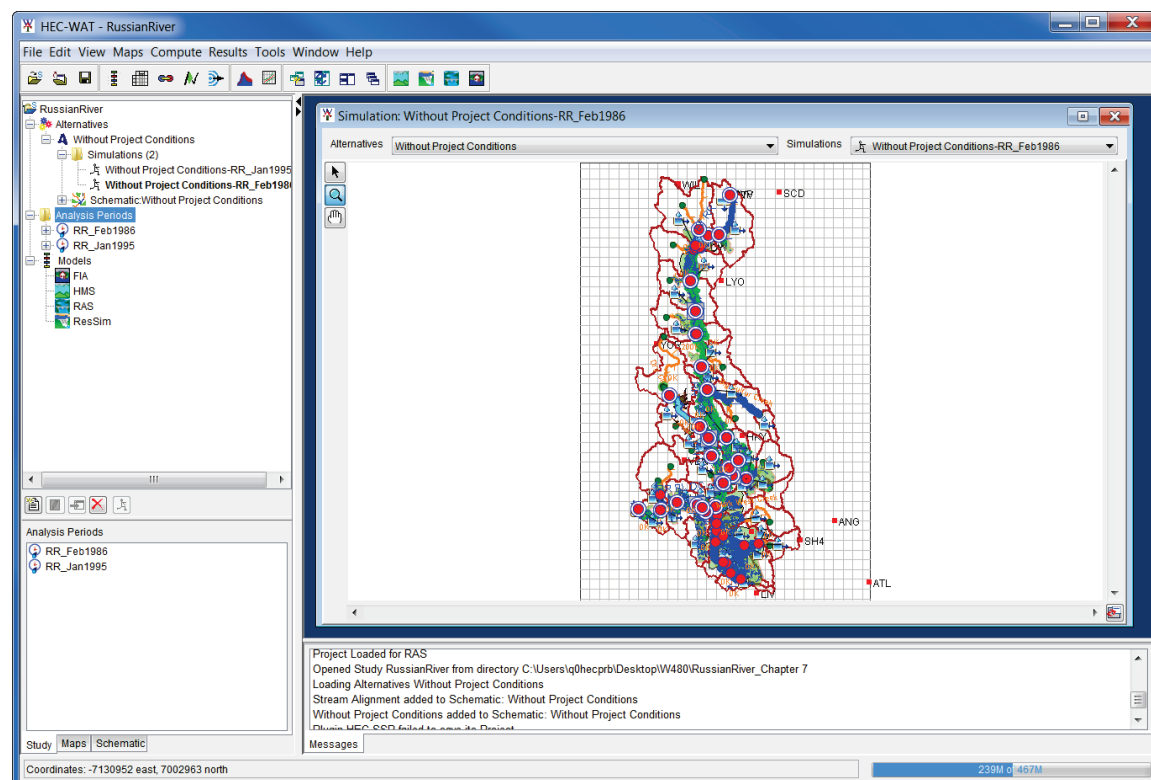
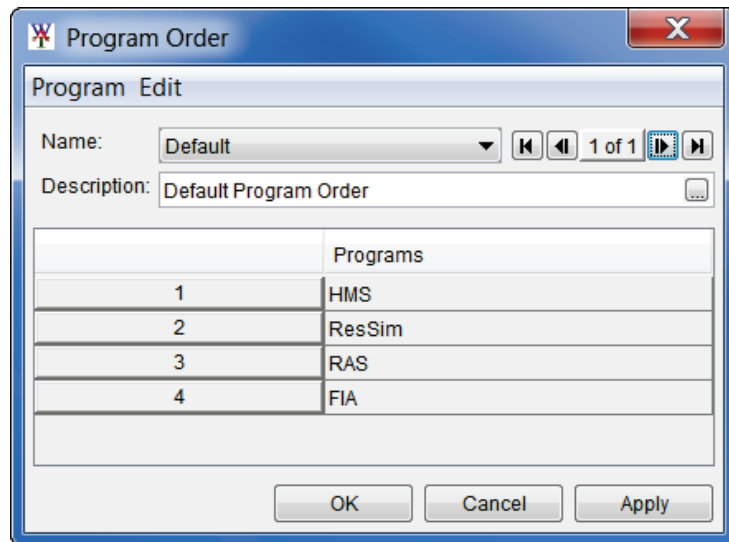

Figure 11.1 HEC-WAT Main Window
Figure 11.2 Program Order Dialog Box
From the HEC-WAT main window (Figure 11.1), the user can manipulate program orders either from the **Toolbar**, click , or from the **Edit** menu, click **Program Order**. From either method, the **Program Order** dialog box will open (Figure 11.2).
From the **Alternative and Simulation Manager** (Figure 11.3), the user can define or edit a program order either from the **Toolbar**, by clicking , or from the **Edit** menu, by clicking **Program Order**. From either method, the **Program Order** dialog box will open (Figure 11.2).
1. By default, the **Default** program order is displayed in the **Program Order** dialog box (Figure 11.2). To create a new program order, from the **Program Order** dialog box, from the **Program** menu, click **New**. The **New Program Order** dialog box will open (Figure 11.4).
5. On the **Program Order** dialog box (Figure 11.2) the name of the new program order will appear in the **Name** list, and the table will display the software applications selected.
1. From the **Program Order** dialog box (Figure 11.2), from the **Name** list, select the program order that is to be deleted.
1. From the **Program Order** dialog box (Figure 11.2), from the **Edit** menu, the user can insert a new software application into a program order or remove a software application from a program order.
To access the **Alternative and Simulation Manager**, from the HEC-WAT main window (Figure 11.1), from the **WAT Tools** toolbar (Chapter 3, Section 3.2.1), click ; or, from the **Edit** menu, click **Alternative and Simulation Manager**. From either method the **Alternative and Simulation Manager** will open (Figure 11.3).
- Click **OK**; the **Alternative and Simulation Manager** will close (Figure 11.11). From the HEC-WAT main window (Figure 11.1), the created simulation appears on the **Study Tree**, under the **Simulations** folder (Figure 11.12).
- Double click on the simulation name (e.g., *Without Project Conditions-RR\_Feb1986*), a **Select Map** dialog box will open. Click **New Map Window**, click **OK**. The **Select Map** dialog box will close. The new map window will contain the schematic elements that represent the simulation (Figure 11.1).